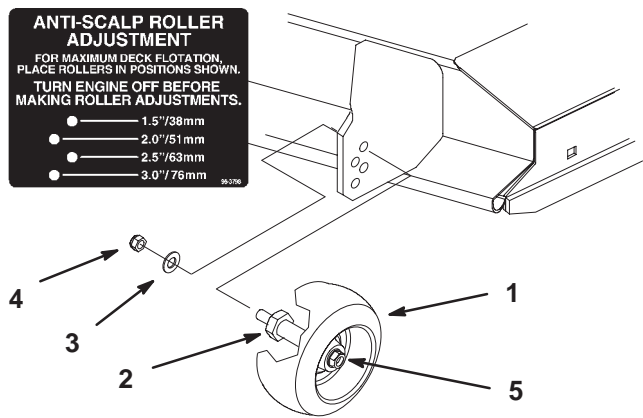

Figure 20
2. After adjusting height-of-cut remove flange nut and spring disk while holding stud with wrench (Fig. 20).
Note: Do not remove the wheel nut and washer (Fig. 20).
3. Select hole so gage wheel is positioned to the nearest corresponding height-of-cut desired (Fig. 20).
4. Reinstall the flange nut and spring disk. Torque to 40–45 ft-lbs. (54.2–61.0 N•m) (Fig. 20).